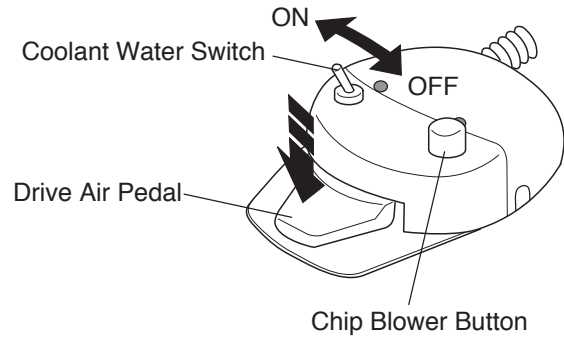

Fig. 3-5 Foot Control
6. OPERATING HANDPIECE (Fig.3-5)